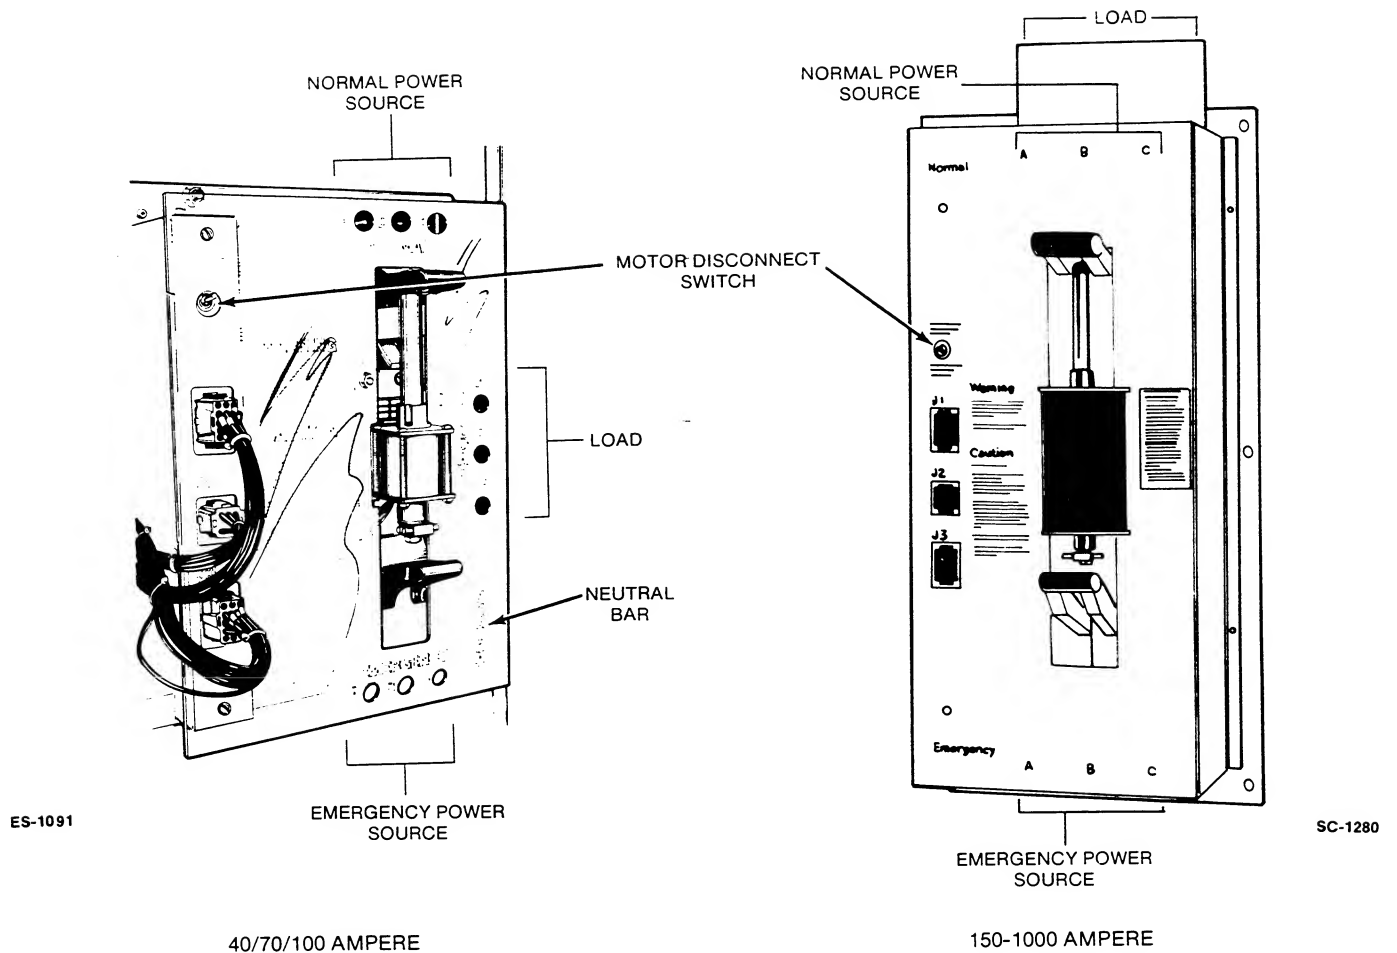

FIGURE 3. TRANSFER SWITCH WIRE CONNECTIONS
3. Connect wires of sufficient size to carry rated current from the line, load, and generator set directly to the transfer switch terminals which are marked A, B, and C (A and B on single-phase switches). Table 2 gives the type and maximum wire size the transfer switch will accept. Figure 3 shows transfer switch connections.